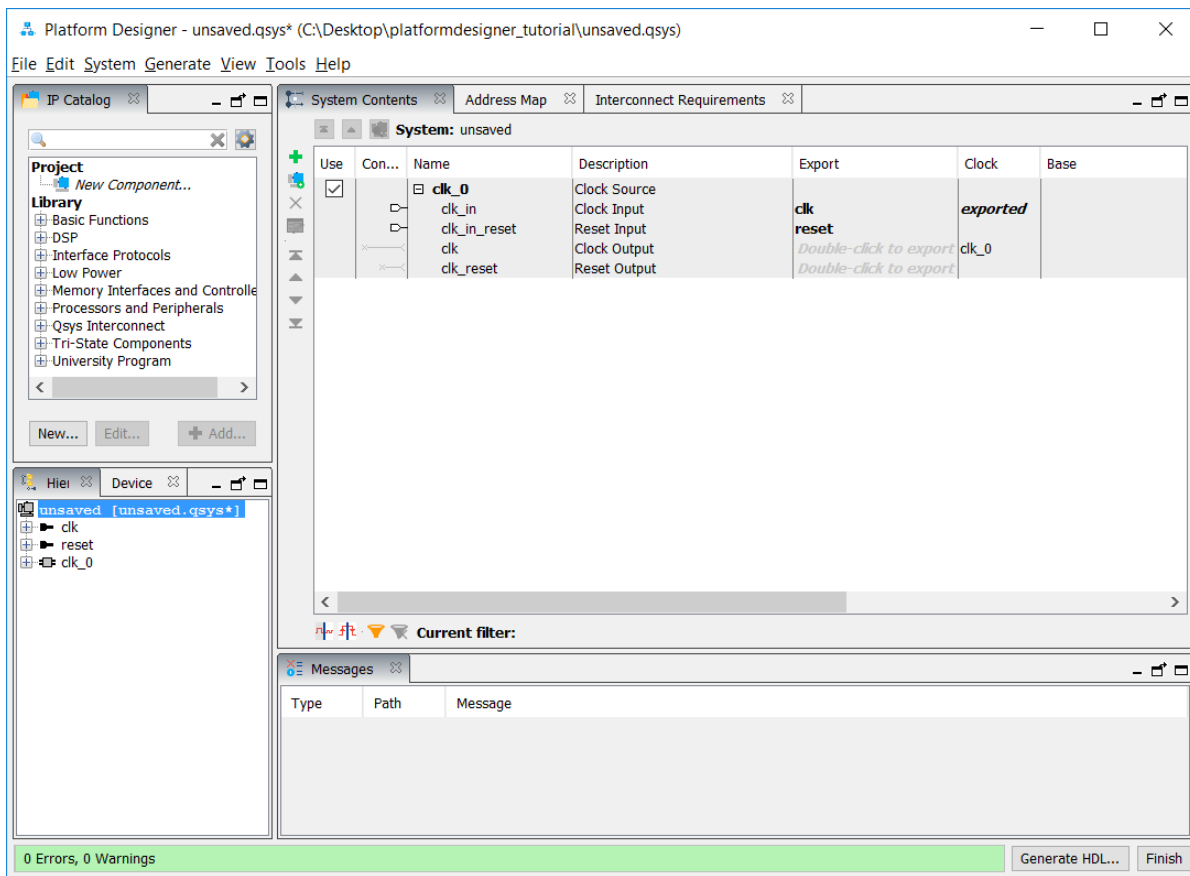

Figure 4. Create a new Nios II system.
- After completing the New Project Wizard to create the project, in the main Quartus Prime window select **TOOLS > Platform Designer**, which leads to the window in Figure 4. This is the System Contents tab of the Platform Designer tool, which is used to add components to the system and configure the selected components to meet the design requirements. The available components are listed on the left side of the window.